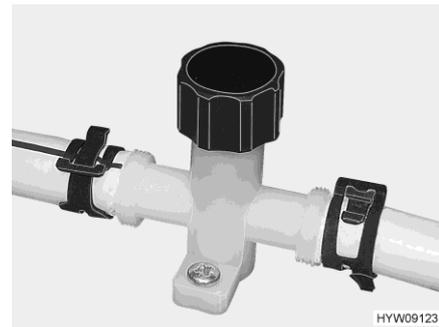

Fig. 132 Drain cock (water pipe)
- Open all drain cocks (Fig. 132).